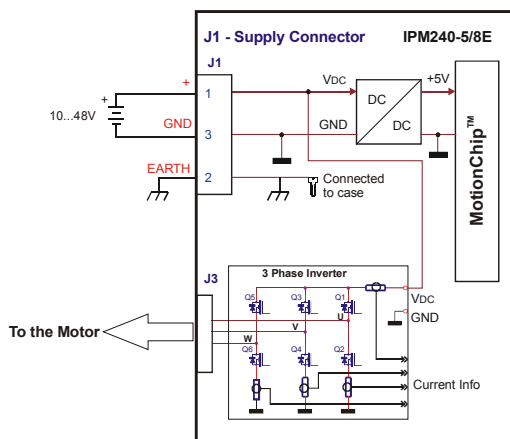
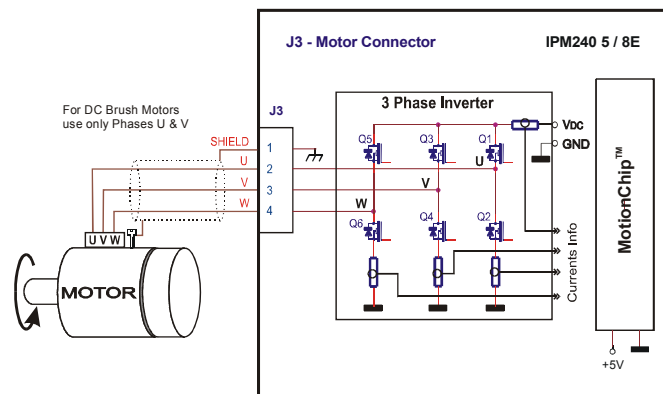
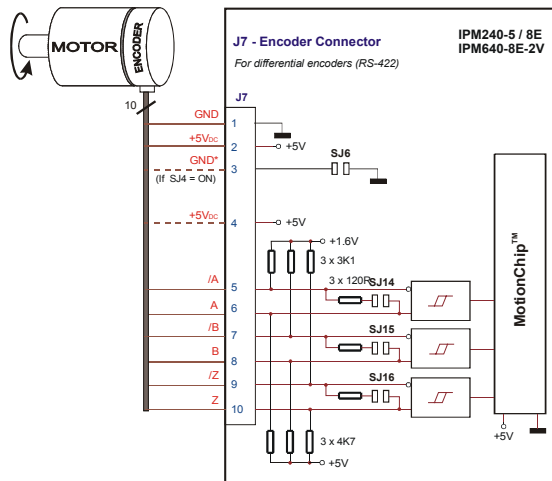
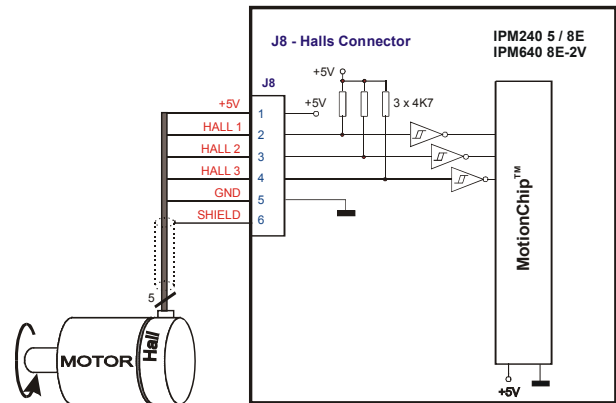

Figure 1. Power Supply – J1 connector
Figure 2. Motor – J3 connector
Figure 3. . Encoder - J7 connector (differential encoders)
Figure 4. J8 – Halls connector
1. Connect the power supply, the motor, encoder and halls to the IPM240 – 5E drive as you can see in the Figure1, Figure 2, Figure 3 and Figure 4 respectively.